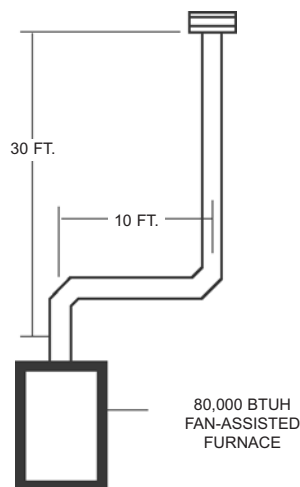

Figure 5
A typical example of use of the Tables for Single-Appliance Venting is shown in Figure 5. The furnace has an input rating of 80,000 BTU per hour and is fan-assisted. *Total Height (H)* of the vent is 30 feet with a 10-foot *Total Lateral Length (L)*. The entire system is Type B gas vent.